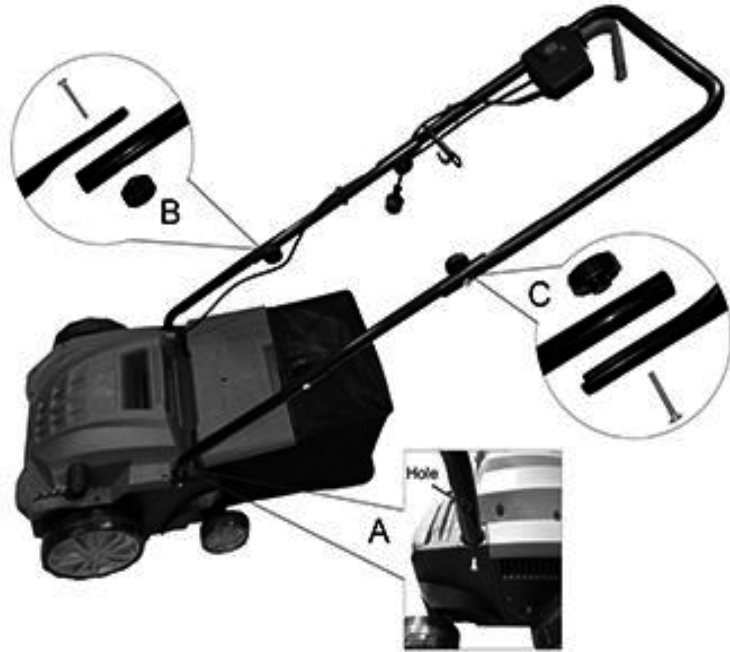

Fig. 2
hole on the tube toward the outside and align with the screw (Fig. 2.A).
Attach the Middle Push Bar (11) to the lower Push Bar (7) using the Quick Release Fasteners (4) and screws. (Fig. 2.B)
Position and attach the Top Push Bar (12) to the Middle Push Bar (11) (Fig. 2.C). Attach the cable using the Cable Clips (6) provided.